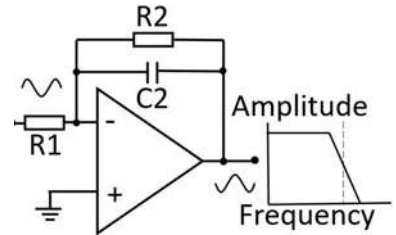

Figure 10. The general low-pass filter circuit.
9. The *low-pass filter* circuit in Figure 10 is a unity gain amplifier passing the frequencies lower than "the break point" as determined by the values of R1 and C1.